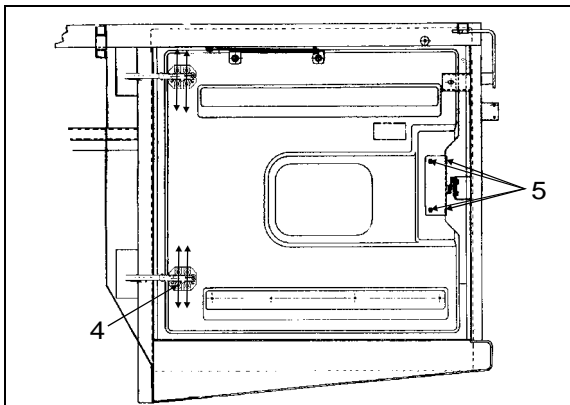

FIGURE 75: ENGINE COMPARTMENT R.H. DOOR
8. Loosen screws (4, Fig. 75).